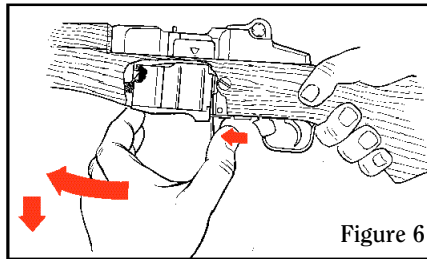

Figure 6
To remove the magazine, simply push the magazine latch forward until the rear end of the magazine drops out of the magazine well. The magazine can then be withdrawn from the rifle. To minimize the possibility of damage and malfunctions, do not let the magazine drop to the ground (See Figure 6, p. 23).
1. With the rifle pointing in a safe direction, safety “ON”, remove the magazine by pushing catch forward to release magazine, while drawing magazine down and forward (See Fig. 6).